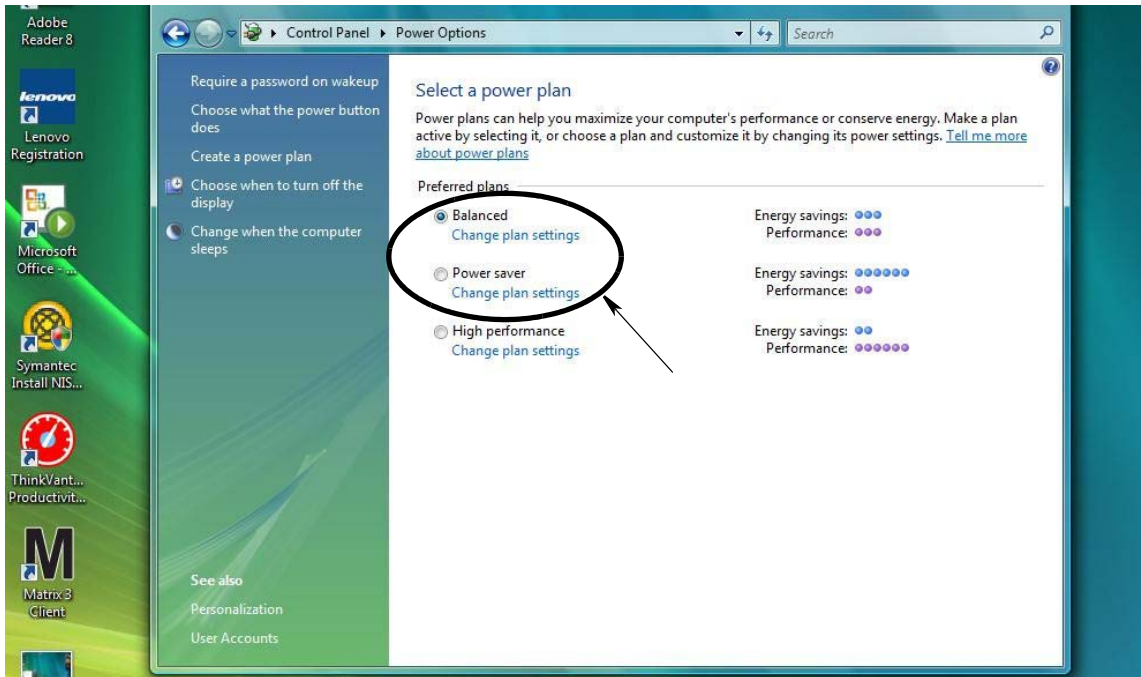

FIG. 51
3. Select either “Balanced” or “Power Saver” power plans and then click the Change Plan Settings link to view the hibernation options (FIG. 51).